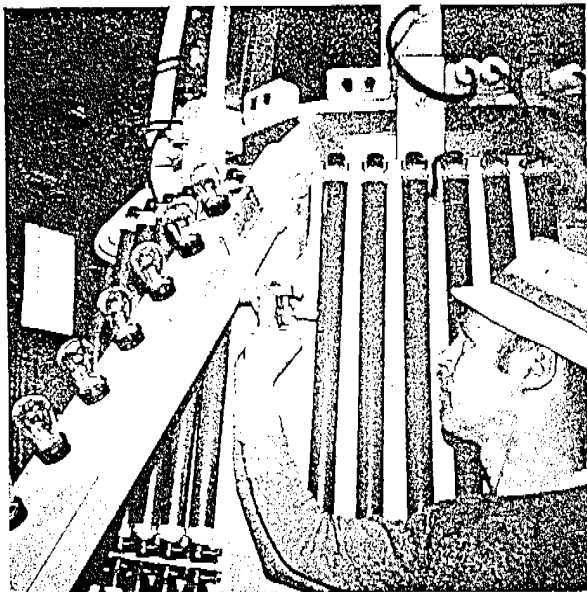

Fig. 56
- b. Remove the clamp that secures the light strip in place. (Fig. 56)